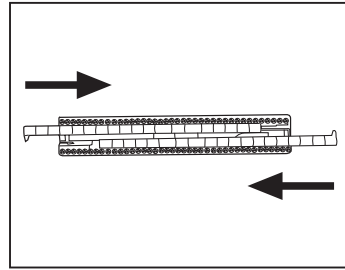

Fig. 9
To install the bristled frame for fitted and non-fitted carpets (26), introduce the stiff brushes into the appropriate guides with the tabs facing inwards (Fig. 9).